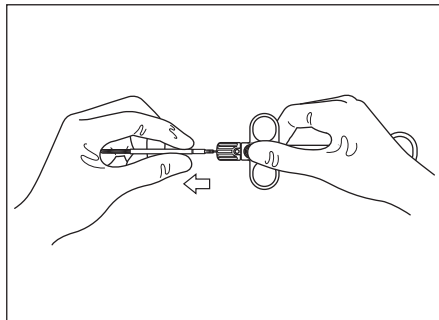

Figure 3.15
2. While depressing the slider's button (red) of the slider, pull the control wire and detach the control section (see Figure 3.15).